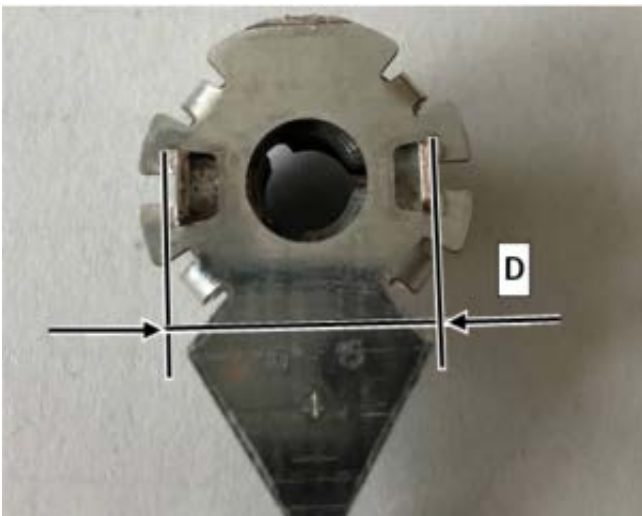

Figure 4
10. Measure outside dimension between anti-twist protection lugs (**D, figure 4**).
i Outside dimension between anti-twist protection lugs (**D, figure 4**) min. 13.6 mm.
- a. Anti-twist protection (**C, figure 3**) **straight** or **bent outwards**, i.e. outside dimension between anti-twist protection lugs (**D, figure 4**) **equal to or greater than 13.6 mm**: Perform operation step 11, then **end measure**.
- b. Anti-twist protection (**C, figure 3**) **bent inwards**, i.e. outside dimension between anti-twist protection lugs (**D, figure 4**) **less than 13.6 mm**: Create **PTSS case**.
i Only if anti-twist protection of cable lug is **bent inwards**, i.e. outside dimension between anti-twist protection lugs (**D, figure 4**) is **less than 13.6 mm**.